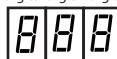

Figure 1: Link element in Hexadecimal value
*4 - Refers figure 1 for alarm program configuration